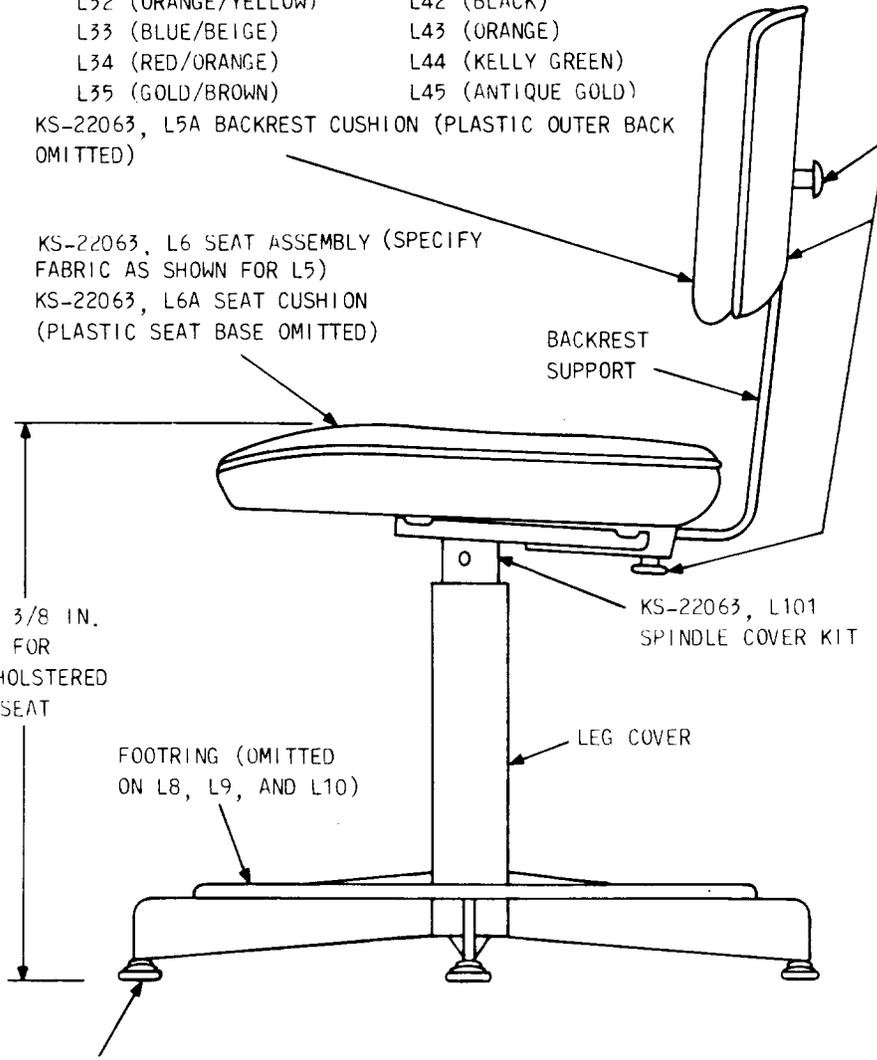

Fig. 7—Replacement Part Information for KS-22063 Operator Chairs
4.13 Adjustment Knobs: To replace the adjustment knobs (Fig. 7), turn counterclockwise until the knob comes out. Install the new knob, with the threads matching, and turn clockwise until the knob is securely tightened.
Note: Floor Glides (L102A), soft casters (L102B), and hard casters (L102C) are interchangeable for KS-22063 operator chairs. (See Fig. 7.)
- (1) Turn chair upside down on a workbench, remove backrest support (Fig. 7), and remove the four bolts on the control mechanism (Fig. 9), using the 417A tool.
- (2) Remove the seat assembly.
- (3) Remove the two bolts and five Phillips head screws from the frame under the cushion to separate the frame and cushion.
- (4) Replace cushion and assemble in reverse order.